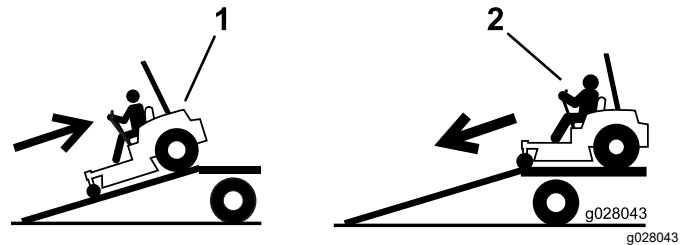

Figure 41
4. Back the machine up the ramp (Figure 41).
2. Drive the machine forward down the ramp (Figure 41).